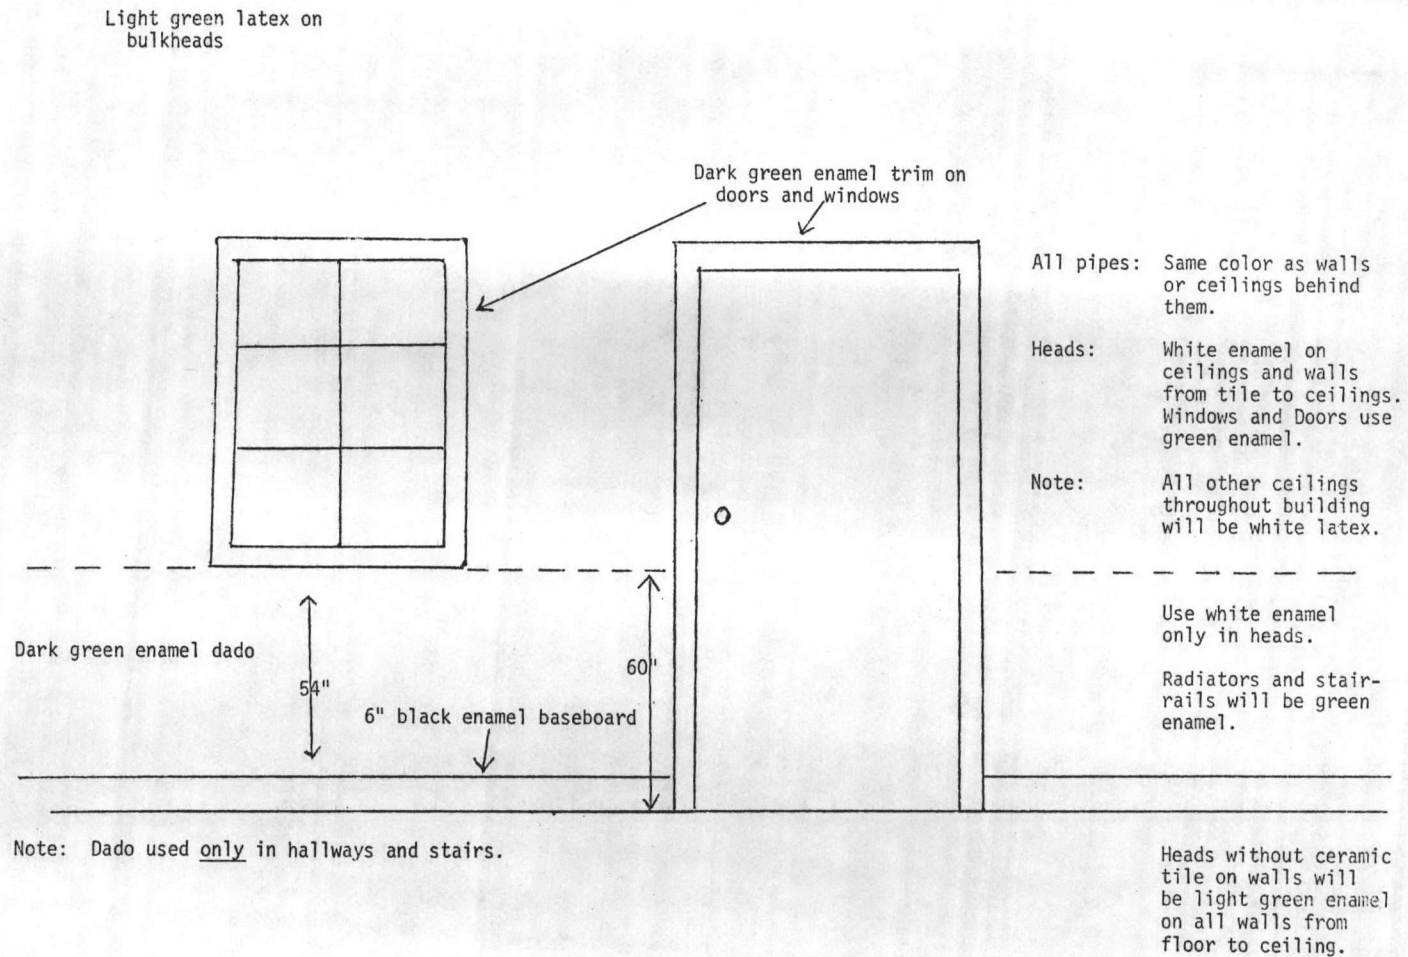

Figure 3
(2) Doors. The extent of repairs that may be made to doors is limited to tightening of hinges and hardware and light lubrication of hinges and locks. Do not use nails as substitutes for screws in securing hardware. Small bits of wood as filler in enlarged holes will result in a sound fastening when the screw is replaced.
d. Painting. Base Maintenance tries to adhere to scheduled internal and external painting. The cycle, depending upon available funds, is every three years inside and every four years outside. When austerity prevails, the internal painting is extended to five years since internal painting has no preservative value. Variations to the painting cycle to improve appearances are authorized only on a case-by-case basis when sanitation, safety or heavy personnel traffic may be a consideration. Where rapid paint deterioration will lead to inadequate surface protection, the cycle will be altered. Reinforced concrete walls and stairs and the concrete foundations of brick buildings will not be painted. Also, concrete steps and decks in all types of buildings will not be painted. This in accordance with reference (n). The standard paint scheme authorized is depicted in figure 3.
(1) By adhering to standard colors in the painting of buildings, blending of touch-up painting is simplified. Colors for all barracks and buildings will be green on green or beige on beige. By permitting touch-up painting by the organization, a general presentability of facilities may be attained within the organization's capability. Haphazard touch-up painting is useless - - more often detracting from appearance than the unattended surface would have been. Follow the below steps and contact Base Maintenance when additional information is required.